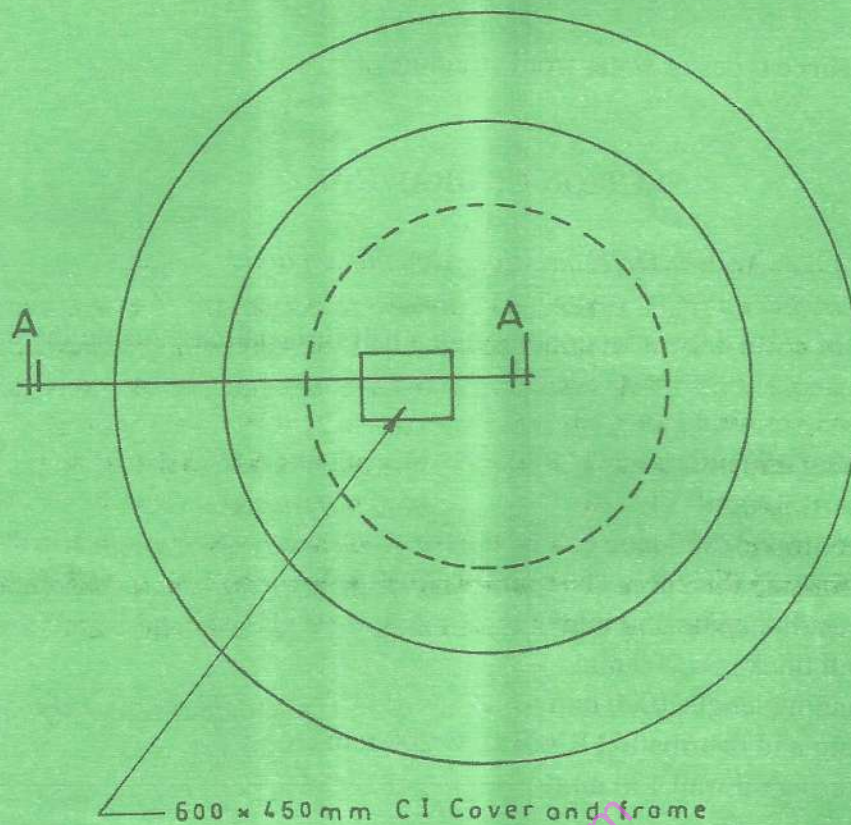

Fig.1
- (b) **Figure 1** shows a plan of an underground water chamber, to a scale of 1:20, draw section A - A using the data provided. (20 marks)